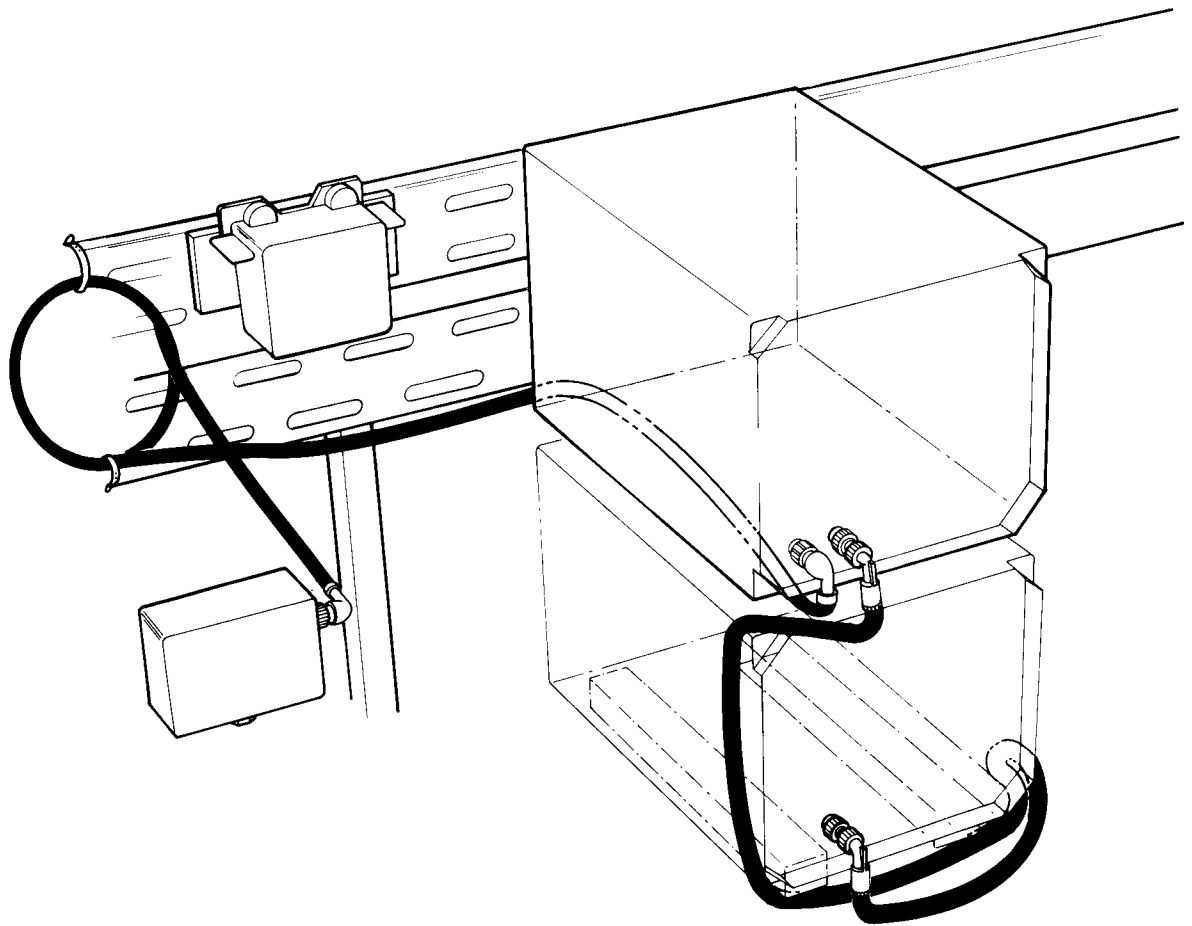

Fig. 10 Cable routes: DMU
7. Connect the 2-pin plug marked POWER on the DMU front panel to a 2-pin socket on the distribution box, using cable assembly, power electrical (5995-99-637-9887) from the DMU installation kit. Pass the cable assembly under the DMU and clip it to the underneath of the equipment rack. Coil up the surplus length and clip it to the equipment rack above the distribution box as in fig. 10.
8. Connect the plug marked HARNESS on the RT-353 front panel to the socket marked RADIO on the DMU front panel using cable assembly power electrical (5995-99-652-1803). Pass the cable around the left side of the front panel of the RT-353 and connect the other end to the front panel socket. Double the excess length of this cable into a loop and pass it along the lower front edge of the RT-353 with the loop portion of the cable positioned around the right side as fig. 10.